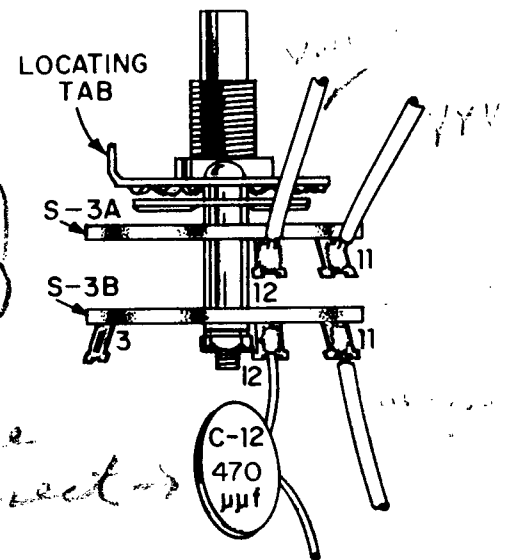

FIGURE 10. PREWIRING S-3
SEE FIGURE 10.
- S-3, 2-wafer switch. Position the switch with the terminals and locating tab as shown in Figure 10.